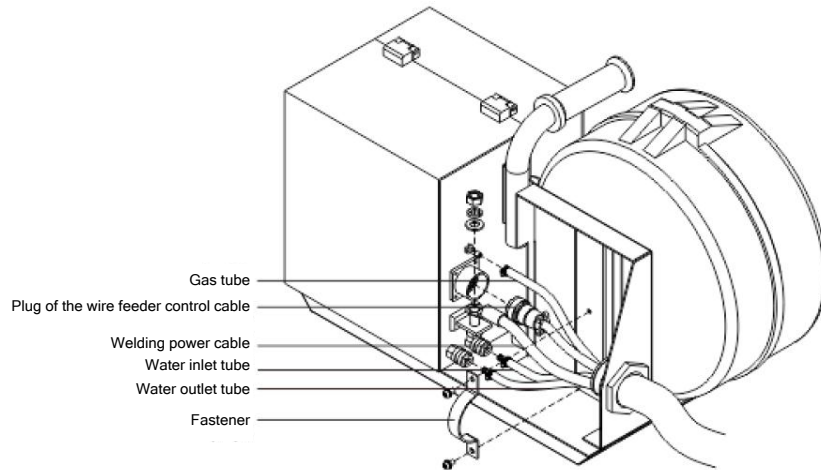

Figure 2-3 Schematic diagram of connecting the wire feeder
3. Rotate the plug of the wire feeder control cable to connect the cable firmly to its jack. See Figure 2-3.